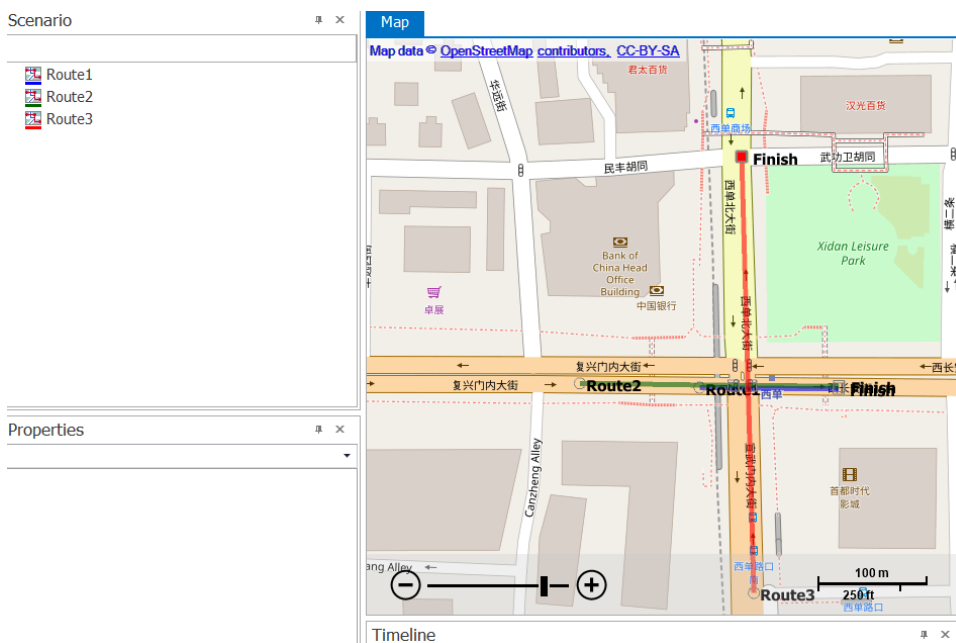

Figure 12: Add a new longitudinal route
- Add a new longitudinal vehicle route and edit it to fit the HV's path in the ICW scenario (Figure 12).